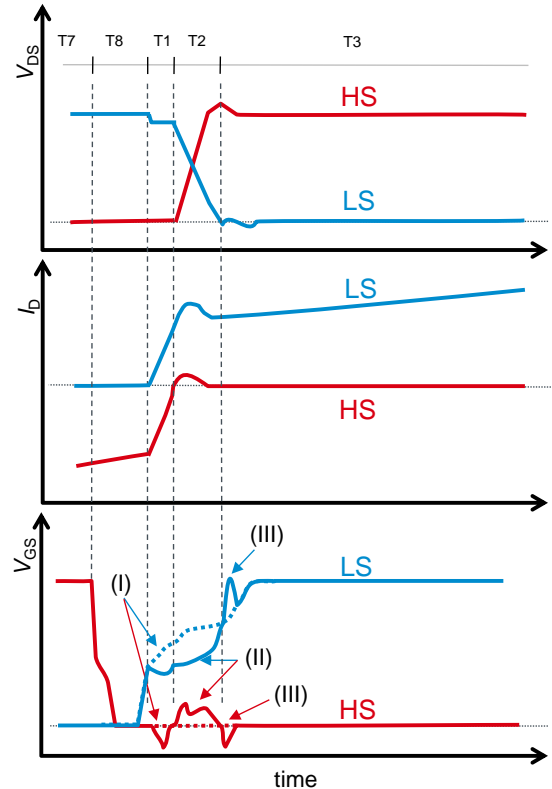
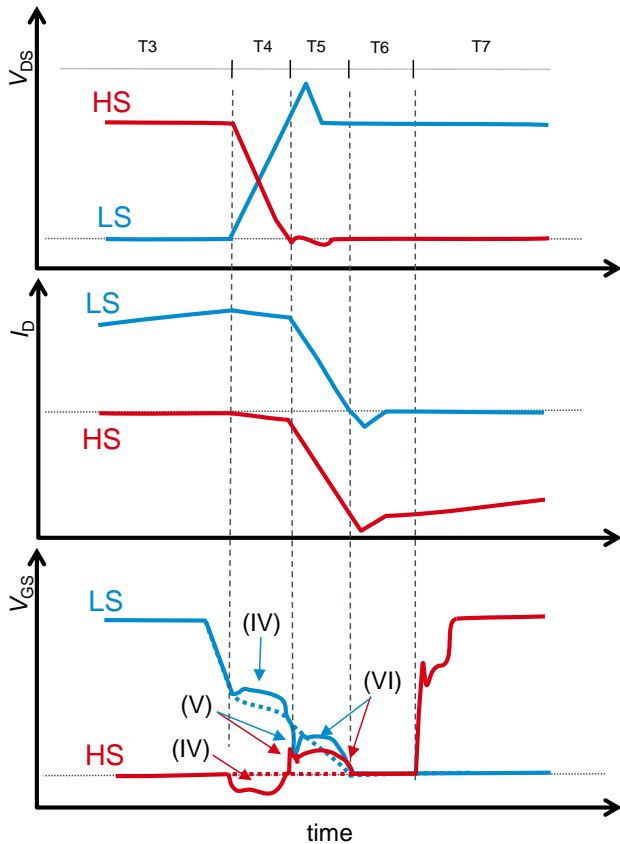

Figure 2. Gate-source voltage behaviour (turn-on)
Figure 3. Gate-source voltage behavior (turn-off)
Figure 2 and Figure 3 show the behaviour of the gate-source voltage when LS is turned on and off, respectively. The horizontal axis denotes time, and the time periods  $T_k(k=1\sim 8)$  are defined as follows:
Event (I) to (IV) shown in Figure 2 and Figure 3 are caused by the following factors:
- Event (I), (VI): Change in  $I_b$  of the MOSFET ( $dI_b/dt$ )
- Event (II), (IV): Change in  $V_{DS}$  of the MOSFET ( $dV_{DS}/dt$ )
- Event (III), (V): Change in  $V_{DS}$  stopped
As explained in the previous section, the positive surge of the gate-source voltage ( $V_{GS}$ ) occurs on both the switching side and the non-switching side. However, the major concern is on the non-switching side (Figure 2 Event (II)). This is because, since the switching side is already turned on, if the positive surge voltage on the non-switching side exceeds the gate threshold voltage ( $V_{GS(th)}$ ) of the MOSFET, self-turn-on occurs and a through current flows. However, because the trans-conductance of a SiC MOSFET is smaller than that of a Si-based MOSFET, excessive through current does not flow immediately. Therefore, even if a through current flows, there is
To suppress the positive surge of the non-switching side  $V_{GS}$  at event (II) shown in Figure 2, Q2 or C1 shown in Table 1 can be used.
The negative surge during turn-off of the non-switching side  $V_{GS}$  at event (IV) shown in Figure 3 can be suppressed by using Q2 or D3 shown in Table 1.